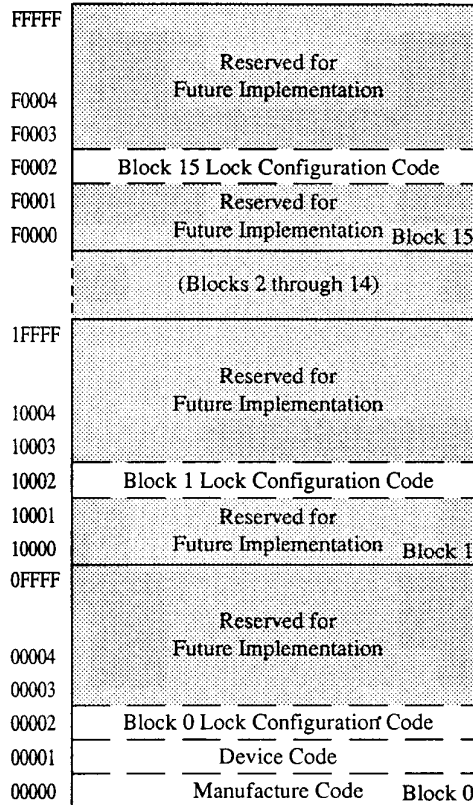

Figure 1. Device Identifier Code Memory Map
The read identifier codes operation outputs the manufacturer code (Block 0), device code (Block 0), and block lock configuration codes (for each block), see Figure 1. Using the manufacturer and device codes, the system CPU can automatically match the device with its proper algorithms. The block lock codes identify locked and unlocked blocks.
IA = Identifier Code Address: see Figure 1.
The host initiates the identifier code operation by writing the Read Identifier Codes command. Following the command write, read cycles from addresses shown in Figure 1 retrieve the manufacturer, device and block lock configuration codes (see Table 3 for identifier code data). To terminate the operation, write another valid command. Although Table 3 lists the device code as A6A6, this family of Sharp's ID243 Series Flash Memory Card could also have device codes AAAA. Host software should check for all two cases for compatibility with future cards.
1. \times selects the specific block lock configuration code to be read. See Figure 1 for the device identifier code memory map.